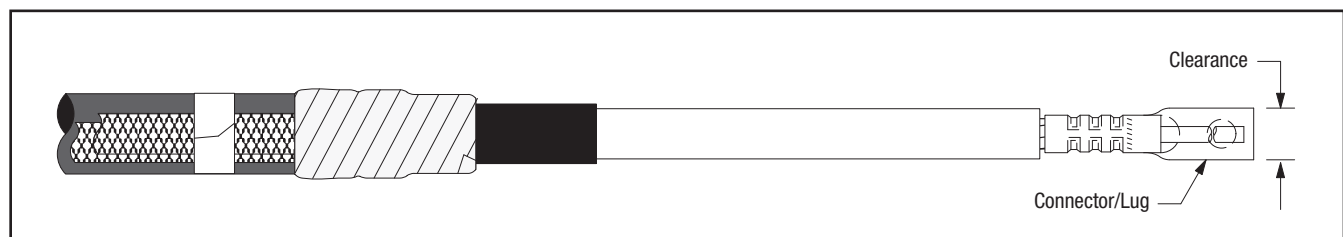

Figure 9
5.1 Check to insure 3M Cold Shrink QT-III Silicone Rubber Termination assembly fits over the selected lug or connector BEFORE installing the lug or connector. If lug or connector (Figure 9) will not fit through the termination core, clean the insulation (per Step 6.0) and slide termination on cable before installing lug or connector. **DO NOT REMOVE CORE AT THIS TIME.**